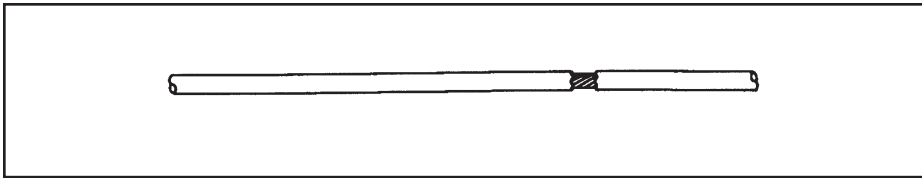

Figure 1.
- A tear or crack in the cable sheath that exposes the cable. See Figure 1.